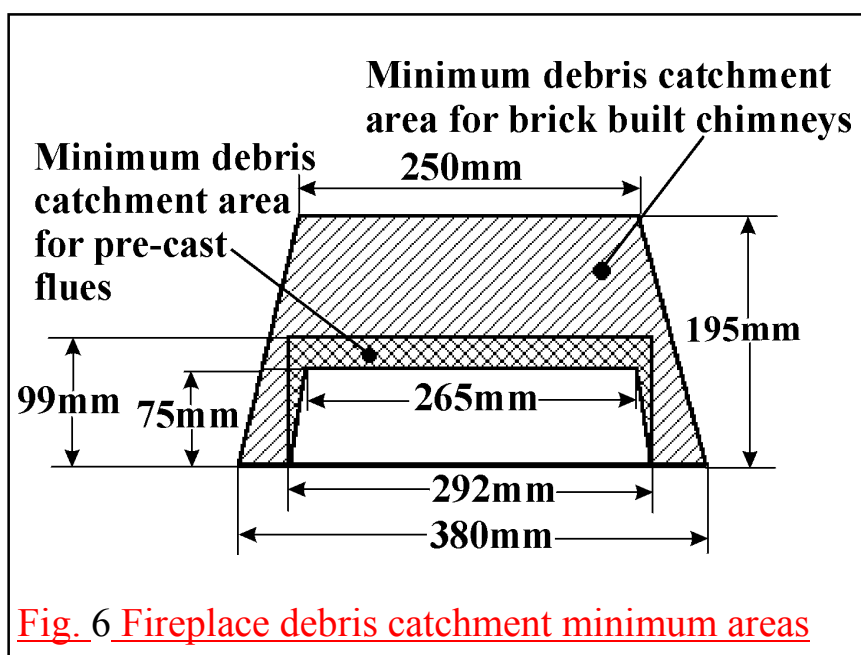

Fig. 6 Fireplace debris catchment minimum areas
3.3.2 The debris catchment area shown in figure 6 must be kept clear of obstructions.